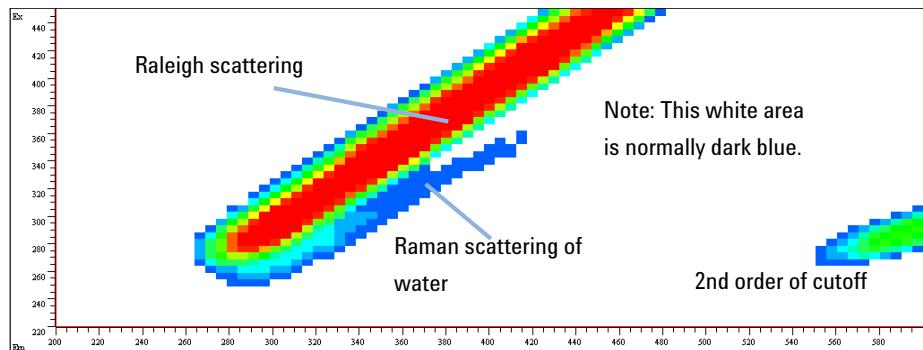

Figure 47 Fluorescence Scan of Water
- Define a data file name and take a fluorescence scan. After the scan is completed, the isoabsorbance scan results appear, see Figure 47 on page 108.